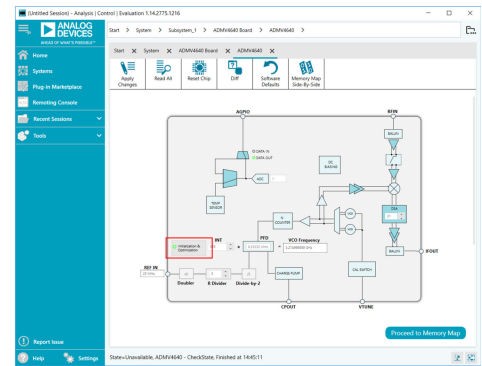

Figure 6. ADMV4640 Block Diagram in the ACE Software
6. The ADMV4640 block diagram appears (see Figure 6).